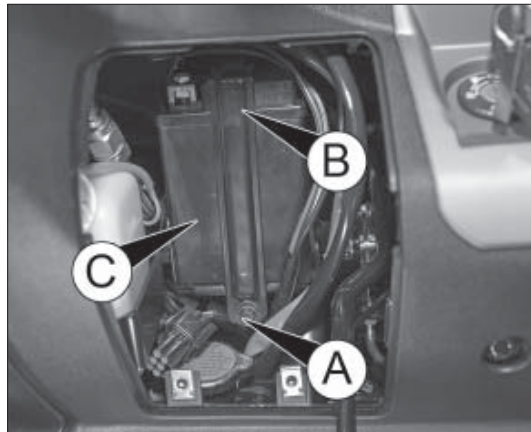

fig. 9
- unscrew screw A fig. 9 and remove the bracket B, then extract the battery C from its seat;